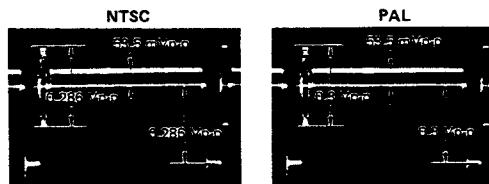

Fig. 3-2
- 1 Adjust R11 (BF LEVEL) for burst level. (Fig. 3-2)
- 2 Adjust R94 (SYNC LEVEL) for sync level. (Fig. 3-2)
- 3 Adjust R100 (SET-UP) for set-up level. (Fig. 3-2)